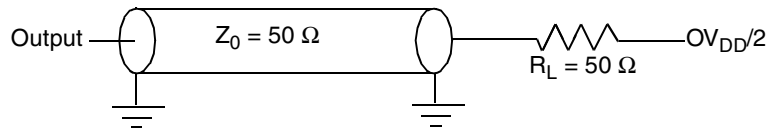

Figure 32. AC Test Load for the JTAG Interface
- All outputs are measured from the midpoint voltage of the falling/rising edge of t_{TCLK} to the midpoint of the signal in question. The output timings are measured at the pins. All output timings assume a purely resistive 50-Ω load (see Figure 32). Time-of-flight delays must be added for trace lengths, vias, and connectors in the system.
- The symbols used for timing specifications herein follow the pattern of t_{(first two letters of functional block)(signal)(state)} (reference)(state) for inputs and t_{(first two letters of functional block)(reference)(state)(signal)(state)} for outputs. For example, t_{JTDVKH} symbolizes JTAG device timing (JT) with respect to the time data input signals (D) reaching the valid state (V) relative to the t_{JTG} clock reference (K) going to the high (H) state or setup time. Also, t_{JTDXKH} symbolizes JTAG timing (JT) with respect to the time data input signals (D) went invalid (X) relative to the t_{JTG} clock reference (K) going to the high (H) state. Note that, in general, the clock reference symbol representation is based on three letters representing the clock of a particular functional. For rise and fall times, the latter convention is used with the appropriate letter: R (rise) or F (fall).
Figure 32 provides the AC test load for TDO and the boundary-scan outputs of the MPC8555E.